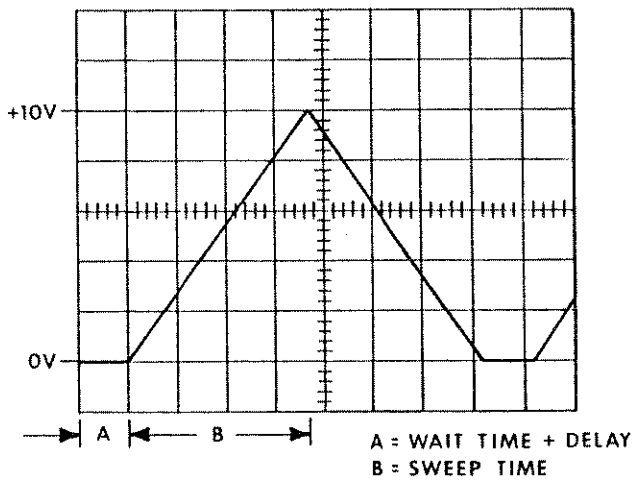

Figure 4.6. Sweep Time (Line)
**LINE RATE** — Set the **SWEEP MODE** for **RECUR**, the **SWEEP RATE** for **LINE**, and set the oscilloscope to trigger at line rate. The oscilloscope pattern should be similar to Figure 4-6. The sweep time should be approximately 5.3 msec at 60 Hz (7 msec at 50 Hz) line frequency.